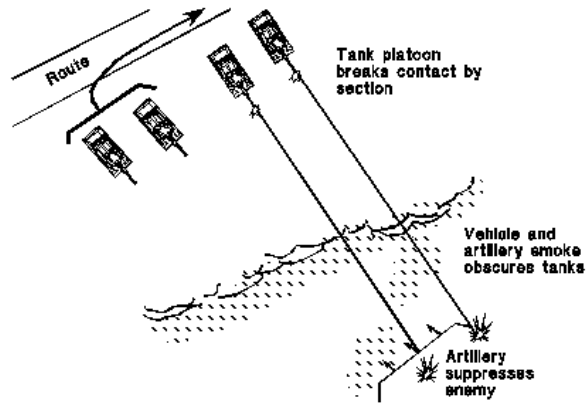

Figure 5-9C. Escort breaks contact.
- o Break contact and move out of the kill zone (see Figure 5-9C).